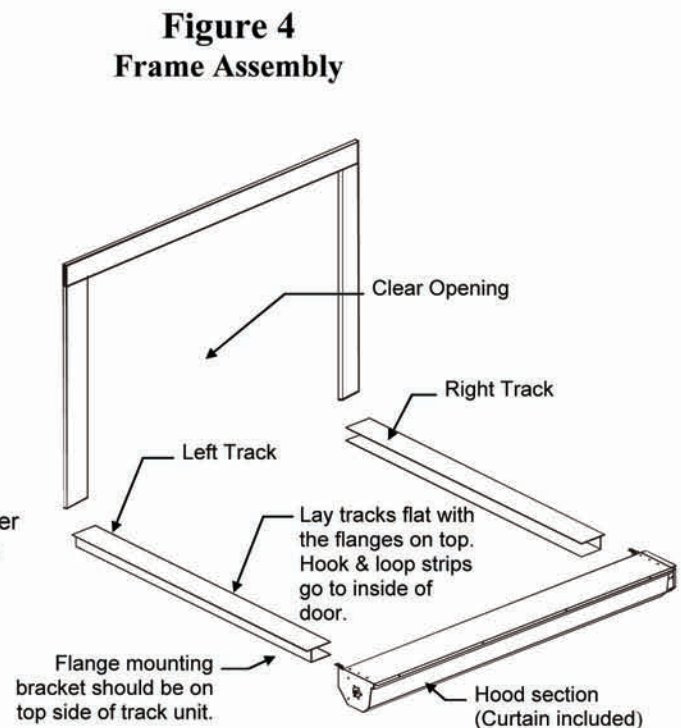

Figure 4
Locate your particular system in **Table 1, Page 1** and your specific Operator & Operator Clearance in **Section 4.1, Page 5**. Read the value of length and width of the clear opening for the door size that you are installing. This gives the required dimensions of the clear opening. If necessary, adjust the dimensions of the mounting posts or framing members to the height and width of your 300ST door system as shown in **Table 1. Refer to Section 5.7, Page 8, Figure 4** for details of attaching door to framing members. Framing material must provide suitable support for attachment of screws.
1. Arrange the horizontal member (Hood Section), left vertical member (left track), and right vertical member (right track) on the floor in front of the clear opening as shown in **Figure 4** with the flange side facing upward.
2. At each end of the Horizontal member, there are two brackets. Refer to **Figure 4** shown below. One bracket attaches to threaded pins inside the track flange. The other bracket (on the front of the hood) attaches to threaded pins on the outside of track unit. Attach hood to track unit.
After attaching tracks to top section, the door assembly is ready for installation to the clear opening. Refer to Figure 4 and Figure 5.